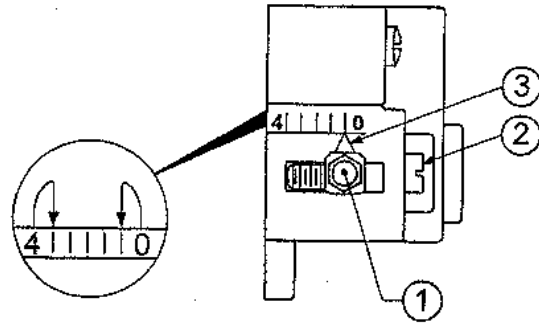

Figure 27: Turbulator Setting
6. **Turbulator Setting**, Refer to Figure 27